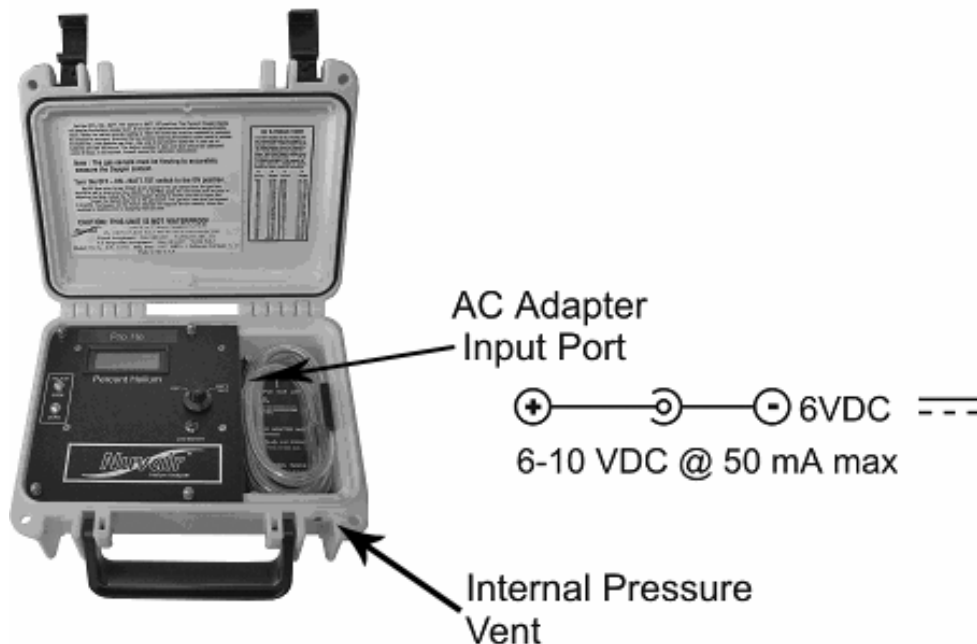

Figure 2-3: Power Adapter Port (Portable Model)
| Figure 2-3: Power Adapter Port (Portable Model) | 16 |
VDC power adapters, P/N A558 (US) or A555 (CE). When using the adapter, insert the jack into the port on the side of the front panel near the ON/OFF/ BATT TEST switch as shown in Figure 2-3. This figure also shows the internal pressure vent port which allows the instrument to vent and return to atmospheric pressure before the lid is opened.